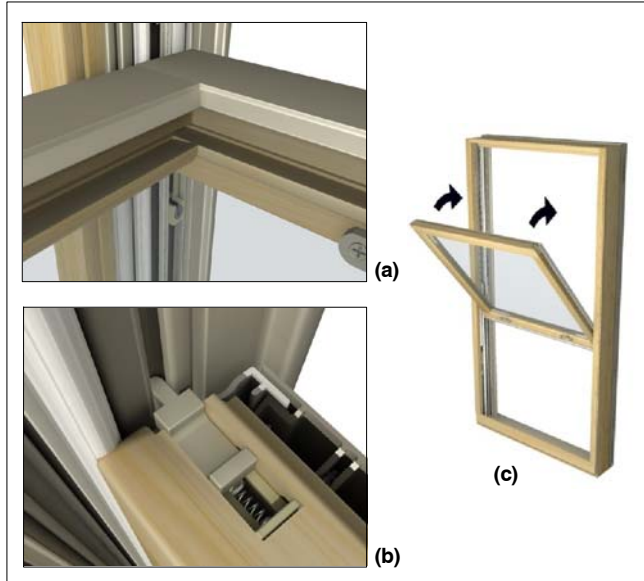

Figure 8
- With a person on each side of the sash, insert the top sash ensuring that the pivot pins are placed above the jamb clutches. Lift window into place, pull back on the tilt latch and tilt the unit up into place. Release the latch ensuring that the latch pin is properly seated and the sash is securely in place. See figure 8.